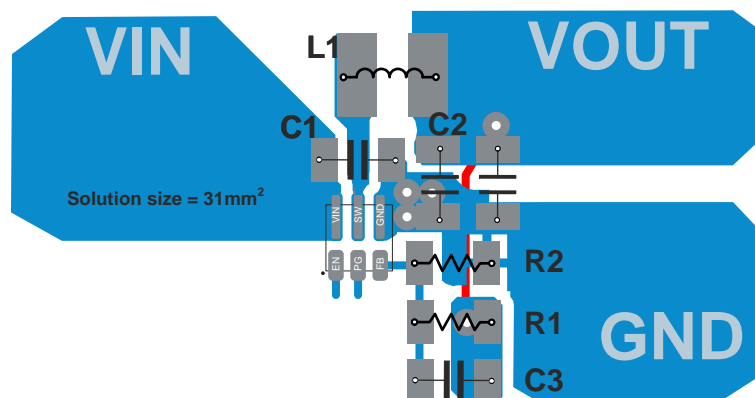

图 36. PCB Layout Recommendation
The printed-circuit-board (PCB) layout is an important step to maintain the high performance of the device. See 图 36 for the recommended PCB layout.
- Refer to 图 36 for an example of component placement, routing and thermal design.